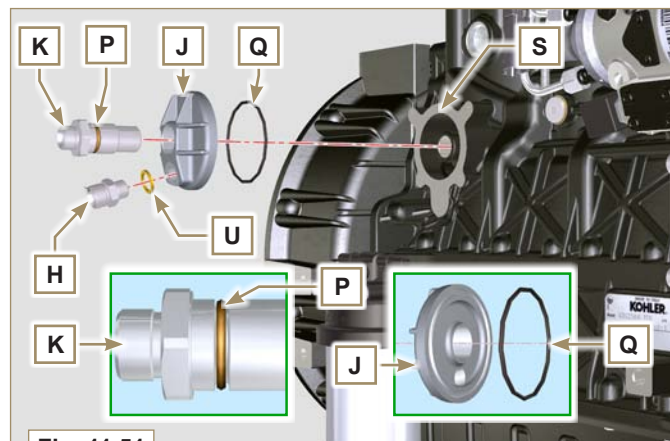
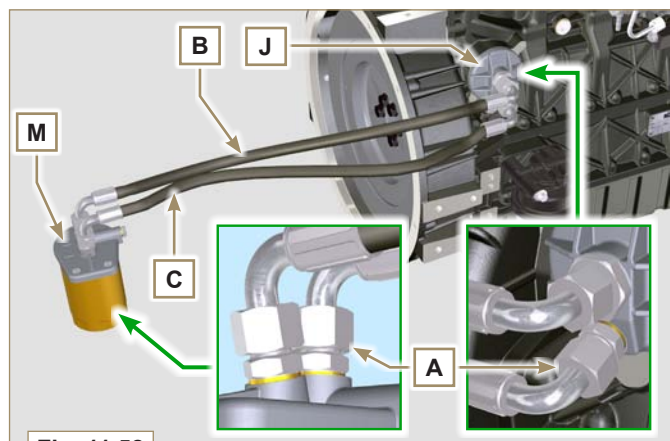

Fig. 11.51
Fig. 11.52
- Check the tightening of the fittings **K**, **H** (Fig. 11.51) and **L** (Fig. 11.52) (tightening torque at **40 Nm**).